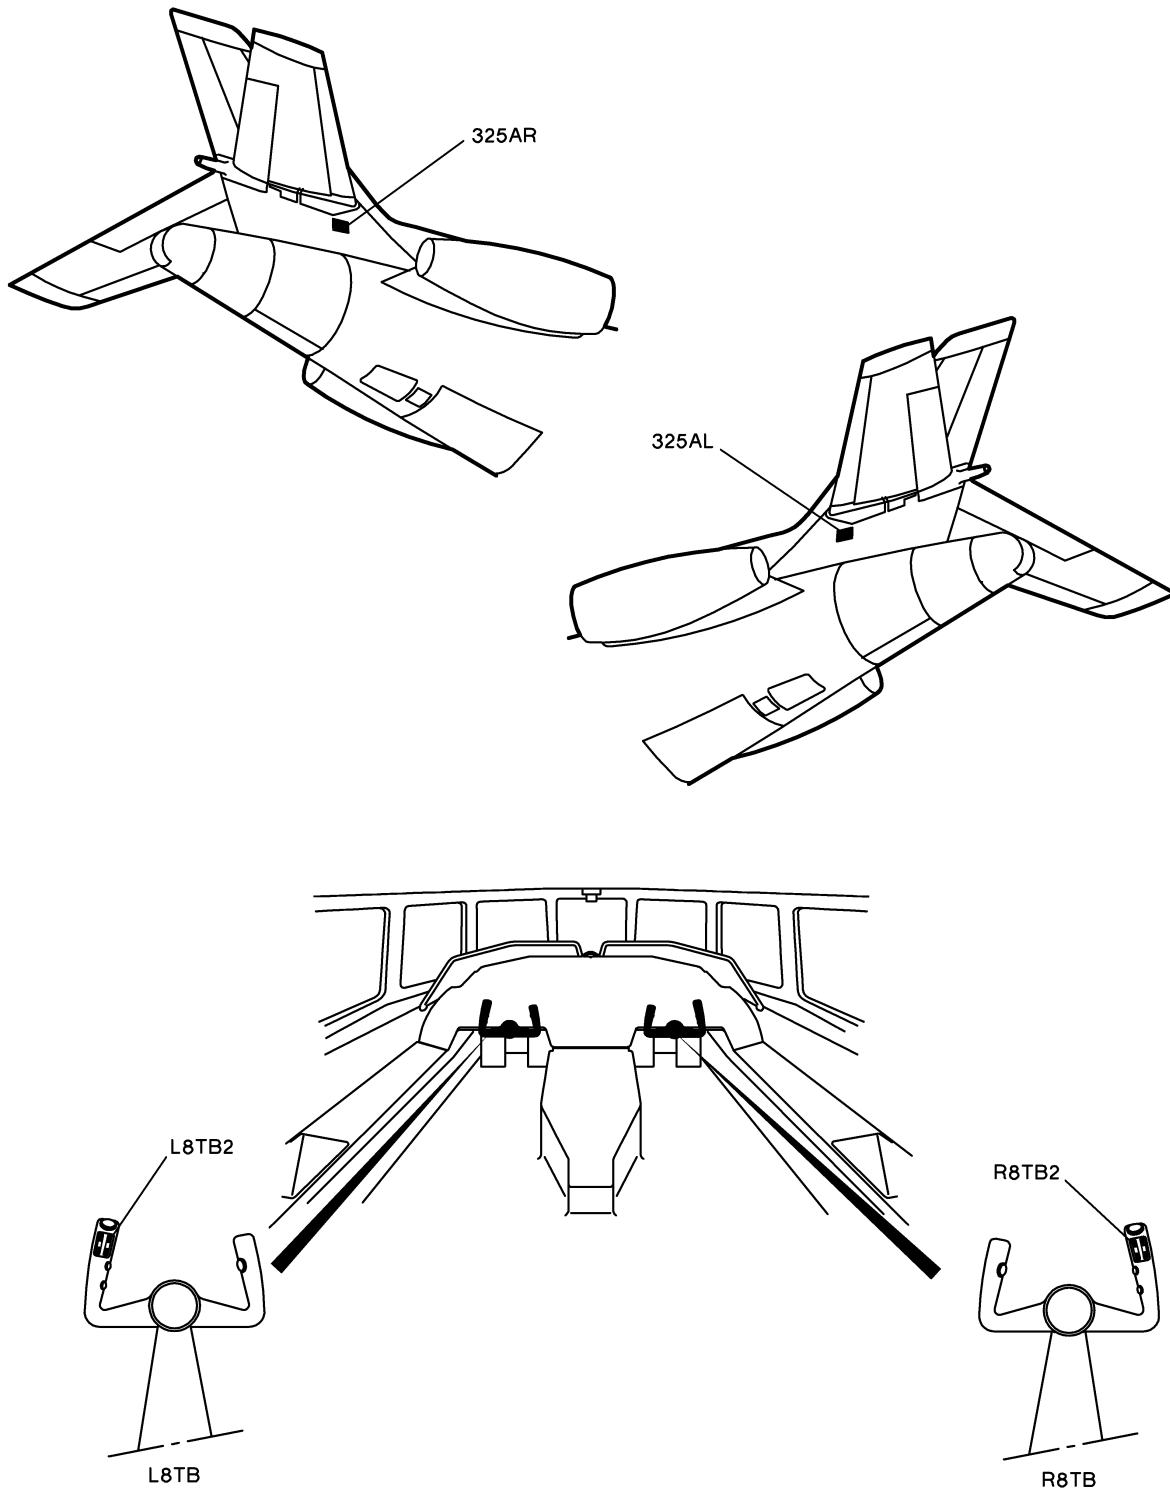
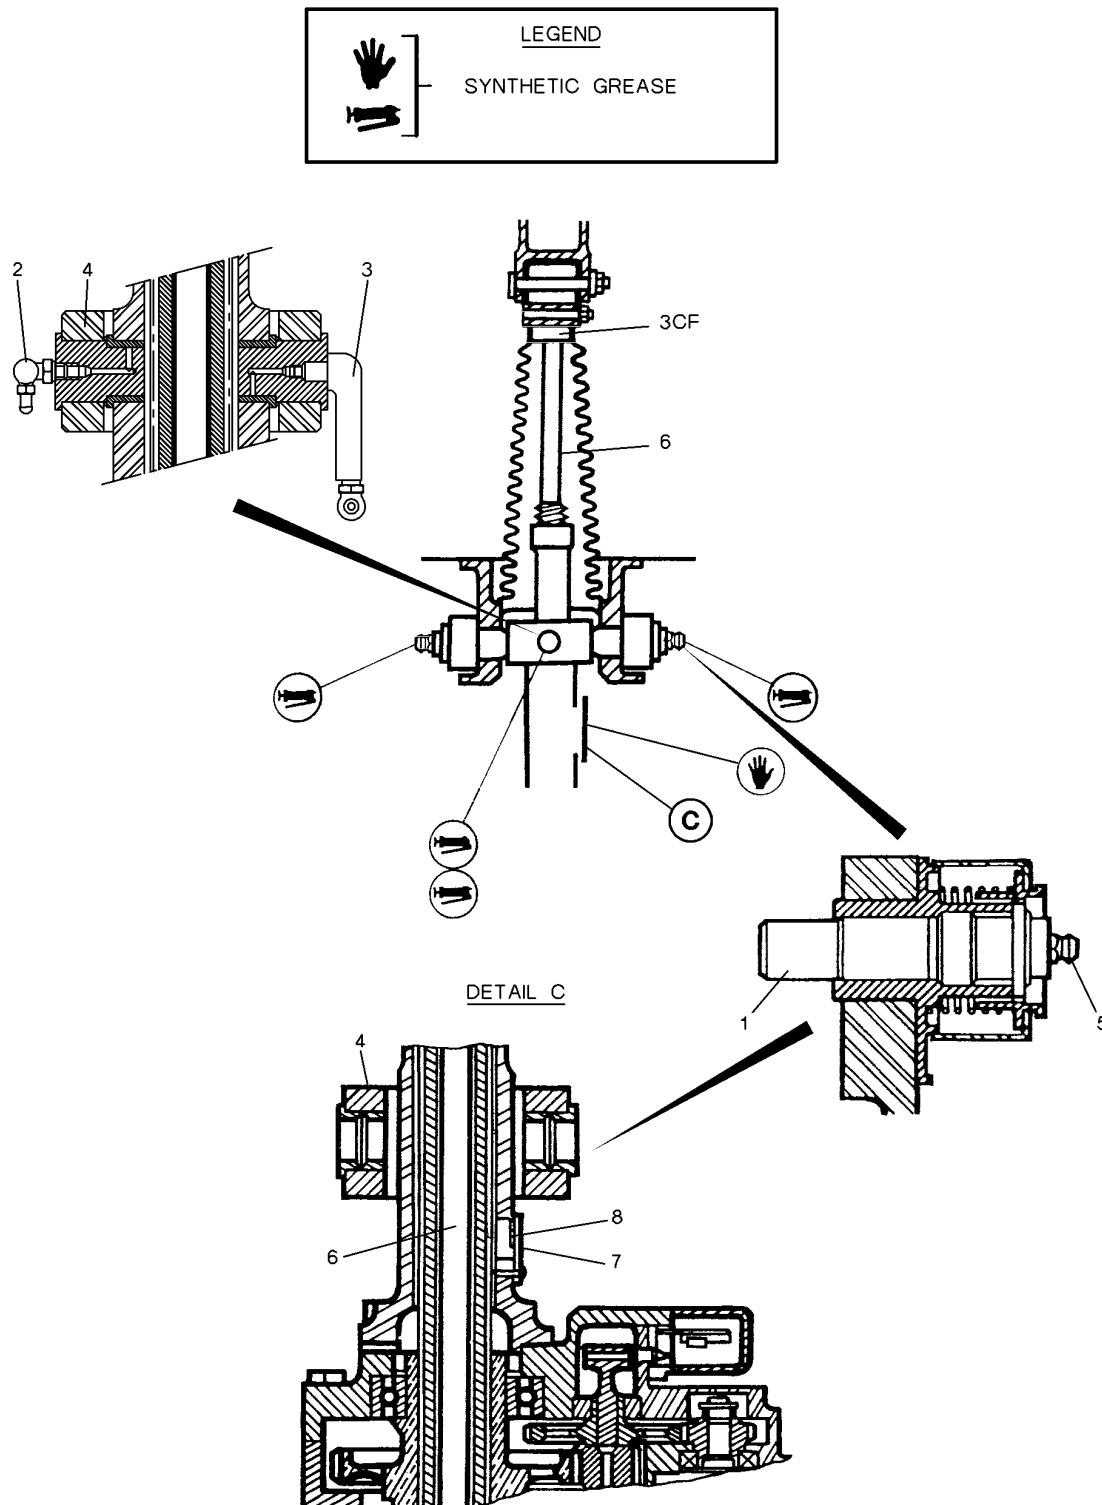

Figure 1: Location of doors, Controls and Indications
Figure 2: Location of Greasing Points
Refer to **fig. 1**
Refer to **fig. 1** and **fig. 2**
- One operator for greasing HS actuator jack screw (6)
- C. Greasing of jack screw (6) (**fig. 2**, detail C)
- (1) Open access cover plate (7) located below stirrup (4).
- (2) Actuate the HS from an electrical stop to the next for point-by-point greasing, using HS pilot or copilot dual rocker (**L8TB2**)/(**R8TB2**).
- (3) Grease jack screw (6) point-by-point with **synthetic grease** through greasing hole (8), using a spatula or a brush.